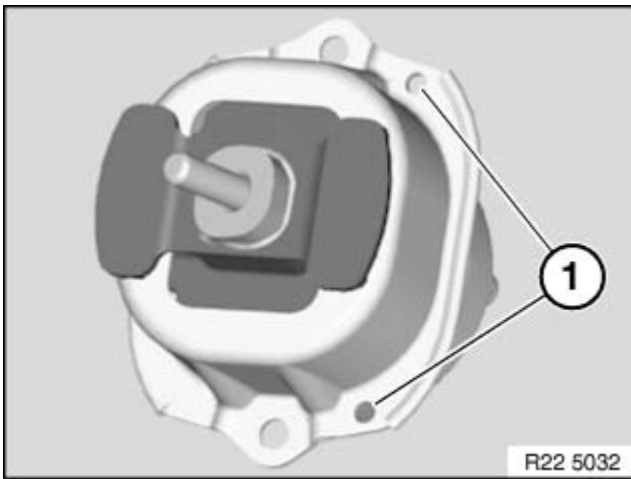

Fig. 2: Holes Must Point To Middle Of Vehicle
Holes (1) in engine mount must point to middle of vehicle. See **Fig. 2**.